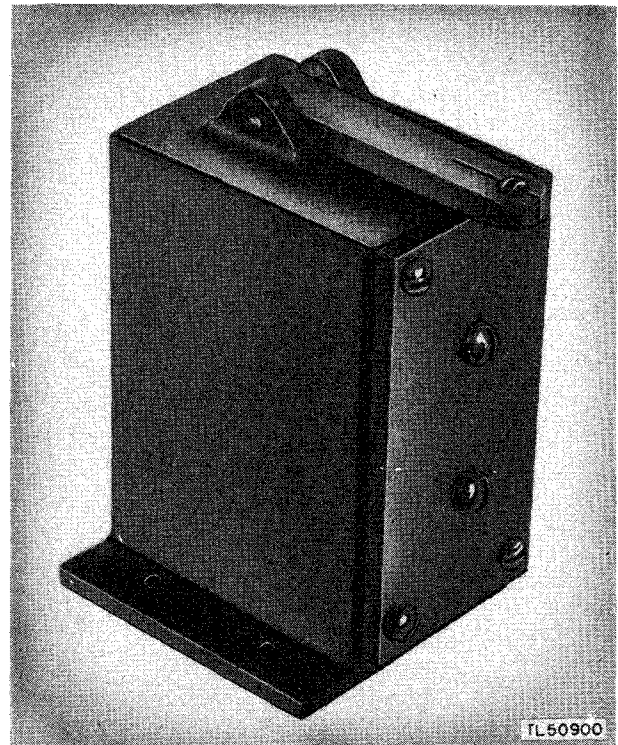

Figure 57. Magnetic release attachment, type 7-FA, front view.
b. The tape puller is equipped with either a rewinder reel attachment or a magnetic release attachment. The tape puller used with the ink recorder is equipped with the magnetic release attachment, type 7-FA (fig. 57), which permits the receiving operator to start or stop the movement of the tape from a remote point by controlling the movement of the pressure roller bracket assembly of the tape puller.
e. A magnetic release attachment (fig. 57) consisting of a pair of electromagnets and an armature mounted in a metal case. The armature extension operates the pressure roller bracket assembly on the tape puller, controlling the stopping and starting of the tape.
The magnetic release attachment (figs. 57 and 72) for starting and stopping the tape is controlled by a switch, which may be remotely located. Close the switch when tape is to be pulled. Open the switch to stop the tape-pulling action. The switch is usually located near the operator's typewriter so he can control the movement of tape through the ink recorder. The magnetic release attachment does not stop the tape puller motor, but merely holds the tape pressure roller off the drive roller when the switch is open. Usually the ink recorder records the tape faster than the receiving operator can transcribe it. The back log of tape accumulates in a tape bin under the operator's table after having passed through a slot